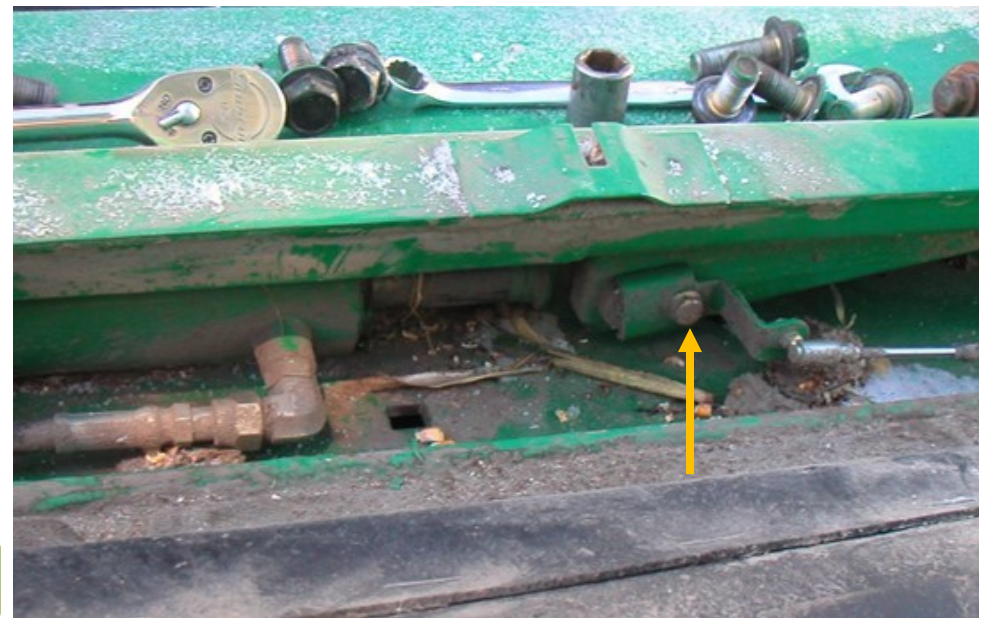

Figure 3
2. Fold back the feeder house cover flap to expose the cable and pin that will need to be removed (See Figure 3).